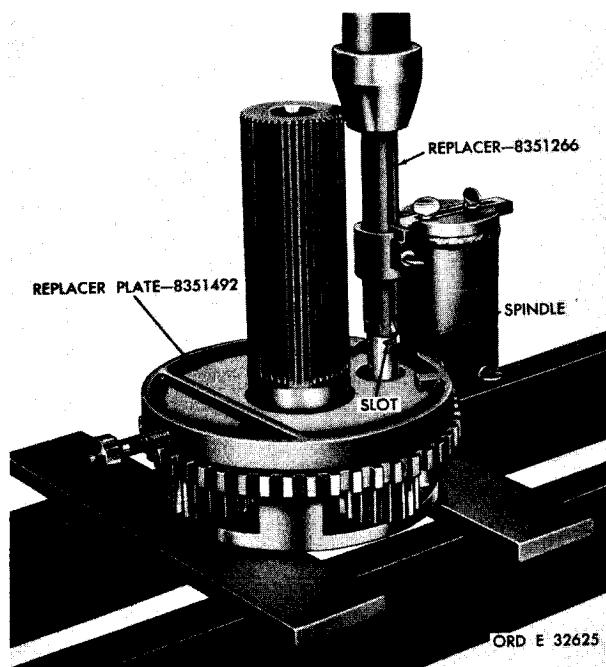

Figure 206. Installing steer planetary carrier and shaft spindle
h. Install the replacer plate 8351492 and spindle replacer 8351266 on the carrier and position the planetary carrier spindle for installation (fig. 206).
Note. Be sure that the slot on the spindle is indexed properly with its lock pin bore in the carrier (fig. 206).
i. Using a press, install the planetary carrier spindle in the carrier (fig. 206). Spindle replacer 8351266 will bottom against the carrier when the spindle is properly positioned in the carrier.